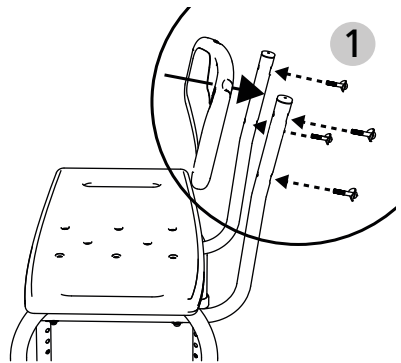

Abb. 4
4. For mounting the backrest, bring the holes of the backrest and the backrest tubes into alignment and screw the components together (Fig. 4, 1).